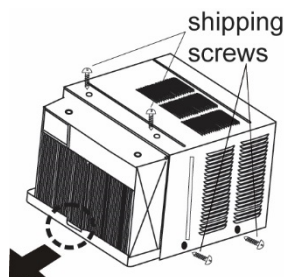

Fig.5
7. Take out the shipping screws from the top and sides of the unit. (Figure 5)